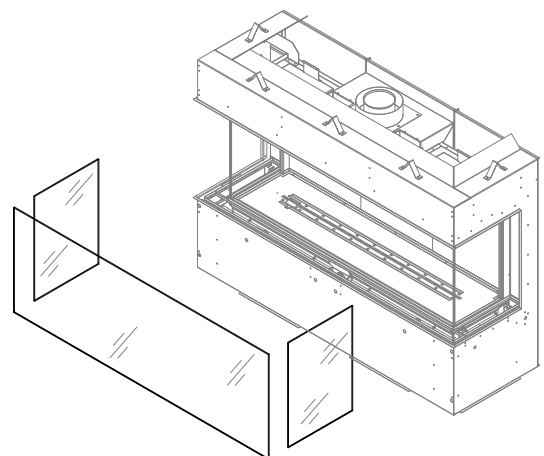

Figure 4.14 - Remove Safety Glass
2. Remove the safety glass, exterior media tray, firebox glass, and crushed media. You may find it beneficial to remove the lower glass brackets for increased accessibility. Figure 4.14, 4.15, and 4.16.